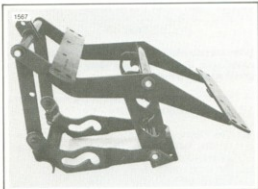

Figure 2-109. Suspension Frame — 1978 1/2 to 1980.
- See Figure 2-109. The frame should only be disassembled if it is badly bent or cracked. Remove the speed nuts and pull the shafts from the frame.